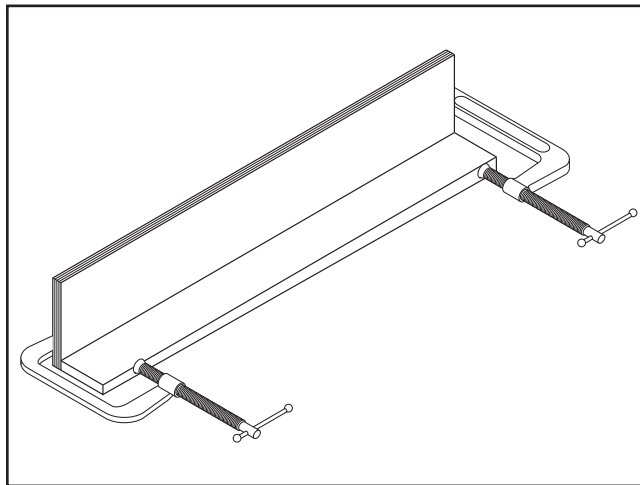

Figure 55. Clamping the resawing barrier.
3. Glue the end of the 3" board, then clamp the boards at a 90° angle with the larger board in the vertical position as shown in **Figure 55**.